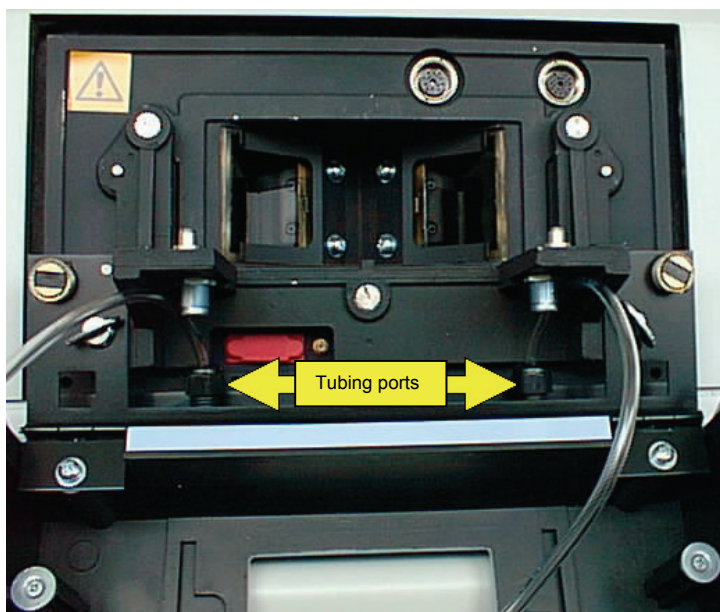

Figure 23 Tubing ports
1. Route the tubing into the sample area and onto the two tubing ports under the sample area door, as shown in Figure 23.